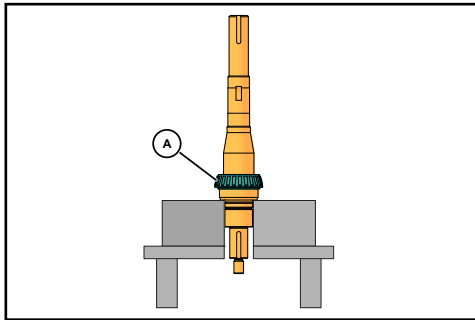

Figure 50 - Press Lower Cone onto Shaft
3. Lift the lower cone and roller assembly (Figure 50, item A) out of the bearing stack and place it on the shaft with the radius facing down. Press it onto the shaft until it is seated against the shaft shoulder. **Press only on the inner cone.**